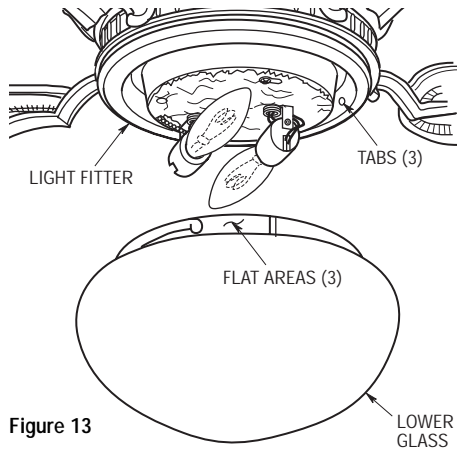

Figure 13
- 19. Place the lower glass into the light fitter, aligning the three flat areas on the lower glass flange with the three tabs on the light fitter (Figure 13). Then turn the lower glass clockwise until the glass stops turning.